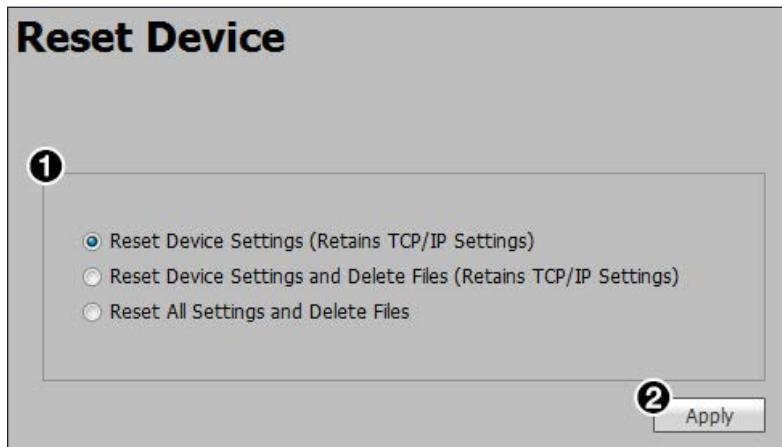

Figure 90. Reset Device Page
1. Click the radio button of the desired reset option (see figure 90, ①).
2. Click the **Apply** button (②). A confirmation dialog box opens.